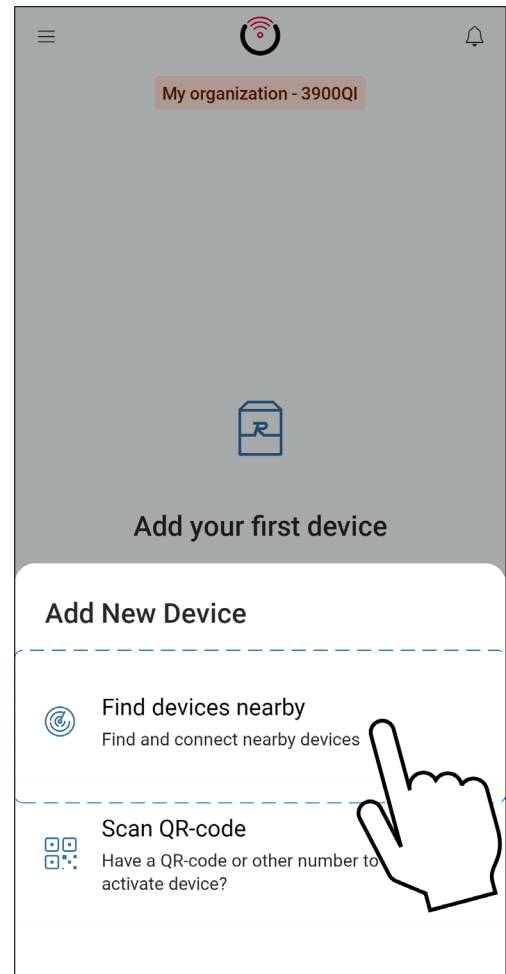

Figure 84. Check your Device
4. "Check your Device" screen will appear. Ensure to have AVIA heater powered and Wi-Fi signal available in the area, then press "Start" button. See Figure 84.